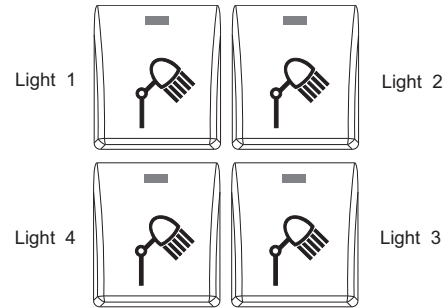

Figure 3-24. Light Fixture ON-OFF Buttons
2. See Figure 3-24. Switch OFF (O) lights by pressing the light ON-OFF buttons.